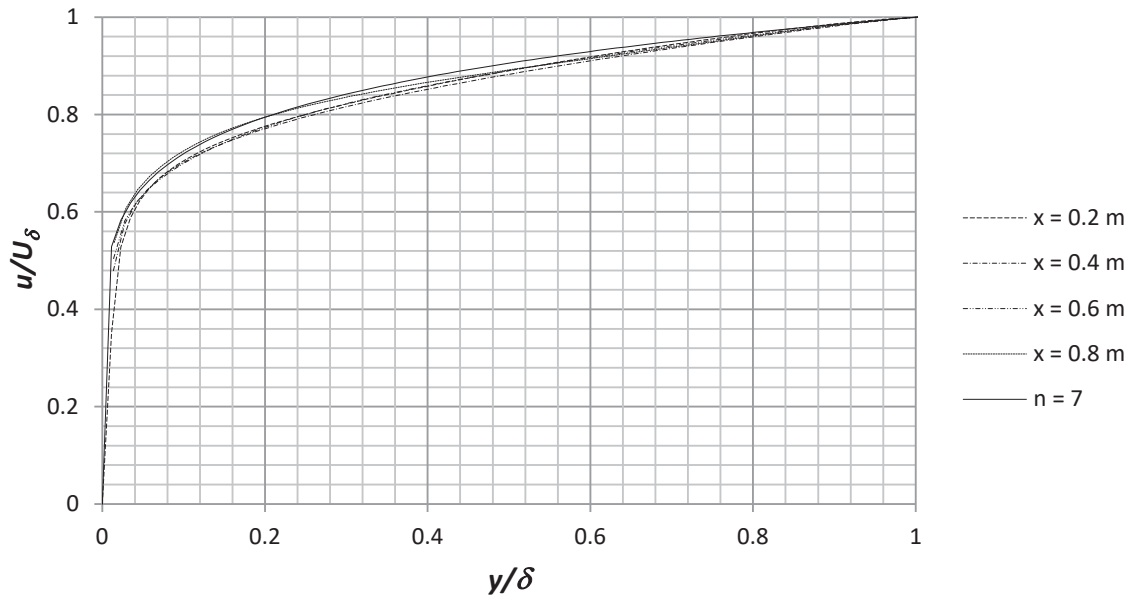

Figure 2.31 Velocity profiles compared with 1/6 power law for turbulent profile
31. Place the file “**graph 2.31**” on the desktop. Repeat step **24** and choose the sketch **x = 0.2, 0.4, 0.6, 0.8 m** and check the box for **Velocity (X)**. Rename the *xy*-plot to **Comparison with One-Sixth Power Law**. An Excel file will open with Figure 2.31. In figure 2.31 we compare the results from Flow Simulation with the turbulent profile for $n = 7$. The power-law turbulent profiles suggested by Prandtl are given by